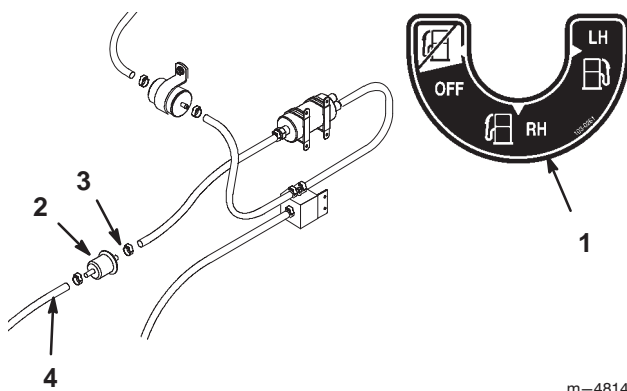

Figure 31
2. Close fuel shut-off valve (Fig. 31).
3. Loosen the hose clamp at the low pressure fuel filter and slide it up the fuel line away from the fuel filter (Fig. 31).
4. Pull the fuel line off low pressure fuel filter (Fig. 31). Open fuel shut-off valve and allow gasoline to drain into a gas can or drain pan.
5. Install the fuel line onto the fuel filter. Install hose clamp close to the fuel filter to secure the fuel line (Fig. 31).